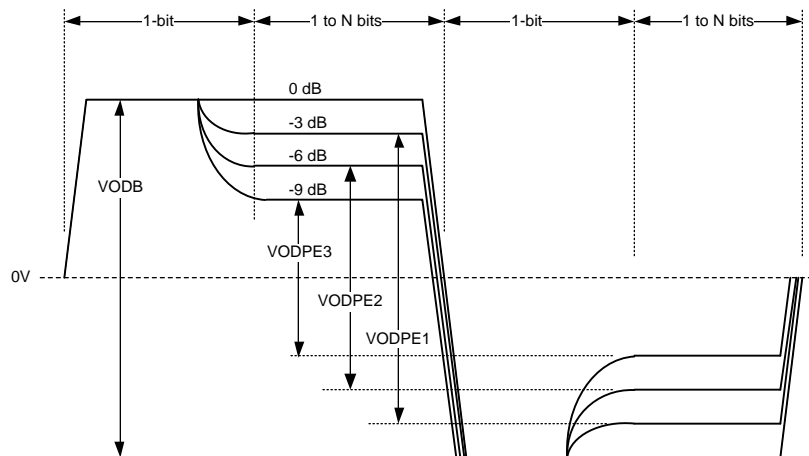
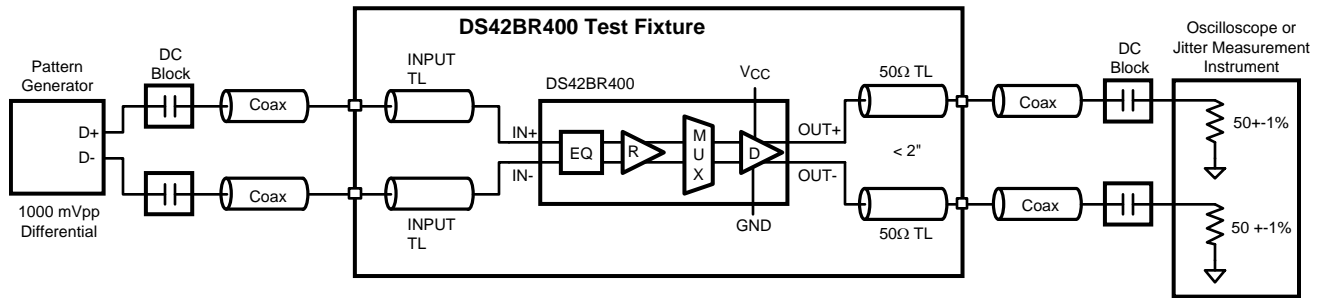

Figure 2. Driver De-Emphasis Differential Waveform (showing all 4 de-emphasis steps)
Figure 7. AC Test Circuit
De-emphasis is the primary signal conditioning function for use in compensating against backplane transmission loss. The DS42BR400 provides four steps of de-emphasis ranging from 0, -3, -6 and -9 dB, user-selectable dependent on the loss profile of the backplane. Figure 2 shows a driver de-emphasis waveform. The de-emphasis duration is nominal 200 ps, corresponding to 85% bit-width at 4.25 Gbps.
The high speed inputs are self-biased to about 1.3V and are designed for AC coupling allowing the DS42BR400 to be directly inserted into the datapath without any limitation. The ideal AC coupling capacitor value is often based on the lowest frequency component embedded within the serial link. A typical AC coupling capacitor value ranges between 100 and 1000nF, some specifications with scrambled data may require a larger coupling capacitor for optimal performance. To reduce unwanted parasitics around and within the AC coupling capacitor, a body size of 0402 is recommended. Figure 7 shows the AC coupling capacitor placement in an AC test circuit.
| V _{ODB} | Output Differential Voltage Swing without De-Emphasis | R _L = 100Ω ±1% PreA_1 = 0; PreA_0 = 0 PreB_1 = 0; PreB_0 = 0 Driver de-emphasis disabled. Running K28.7 pattern at 4 Gbps. See Figure 7 | 1000 | 1200 | 1400 | mV _{P-P} |
| V _{PE} | Output De-Emphasis Voltage Ratio 20*log(V _{ODPE} /V _{ODB}) | R _L = 100Ω ±1% Running K28.7 pattern at 4.25 Gbps PreX_[1:0] = 00 PreX_[1:0] = 01 PreX_[1:0] = 10 PreX_[1:0] = 11 X = A/B channel de-emphasis drivers See Figure 2 / Figure 7 | | 0 -3 -6 -9 | | dB dB dB dB |
| t _R | Differential Low to High Transition Time | Measured with a clock-like pattern at 4.25 Gbps, between 20% and 80% of the differential output voltage. De-emphasis disabled. Transition time is measured with the fixture shown in Figure 7 adjusted to reflect the transition time at the output pins. | | 80 | | ps |
| RJ | Device Random Jitter ⁽⁵⁾ | At 0.25 Gbps At 1.5 Gbps At 4.25 Gbps Alternating-10 pattern. De-emphasis disabled. See Figure 7 | | | 2 2 2 | ps rms ps rms ps rms |
| DJ | Device Deterministic Jitter ⁽⁶⁾ | At 0.25 Mbps, PRBS7 pattern At 1.5 Gbps, K28.5 pattern At 4.25 Gbps, K28.5 pattern At 4.25 Gbps, PRBS7 pattern De-emphasis disabled. See Figure 7 | | | 25 25 25 25 | ps pp ps pp ps pp ps pp |
(4) t_{SKO} is the magnitude difference in propagation delays between all data paths on one device. This is channel-to-channel skew. t_{SKPP} is the worst case difference in propagation delay across multiple devices on all channels and operating under identical conditions. For example, for two devices operating under the same conditions, t_{SKPP} is the magnitude difference between the shortest propagation delay measurement on one device to the longest propagation delay measurement on another device.
(5) Device output random jitter is a measurement of random jitter contributed by the device. It is derived by the equation $\text{SQRT}[(\text{RJ}_{\text{OUT}})^2 - (\text{RJ}_{\text{IN}})^2]$, where RJ_{OUT} is the total random jitter measured at the output of the device in ps(rms), RJ_{IN} is the random jitter of the pattern generator driving the device. Below 400 Mbps, system jitter and device jitter could not be separated. The 250 Mbps specification includes system random jitter. Please see Figure 7 for the AC test circuit.
(6) Device output deterministic jitter is a measurement of the deterministic jitter contribution from the device. It is derived by the equation (DJ_{OUT} - DJ_{IN}), where DJ_{OUT} is the total peak-to-peak deterministic jitter measured at the output of the device in ps(p-p). DJ_{IN} is the peak-to-peak deterministic jitter at the input of the test board. Please see Figure 7 for the AC test circuit.
(7) This parameter is specified by design and/or characterization and is not tested in production.